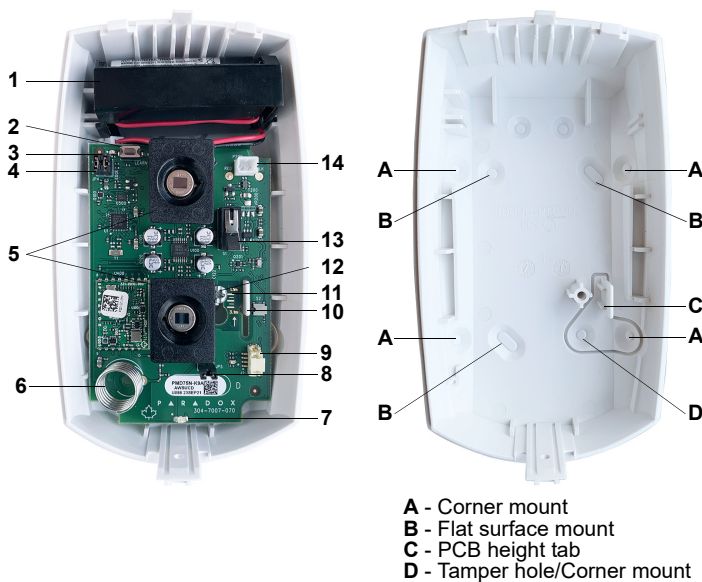

Figure 1 – PMD75N PCB Overview
- Note:** Ensure that the tamper screw is secured through the respective tamper hole, refer to D in Figure 1.